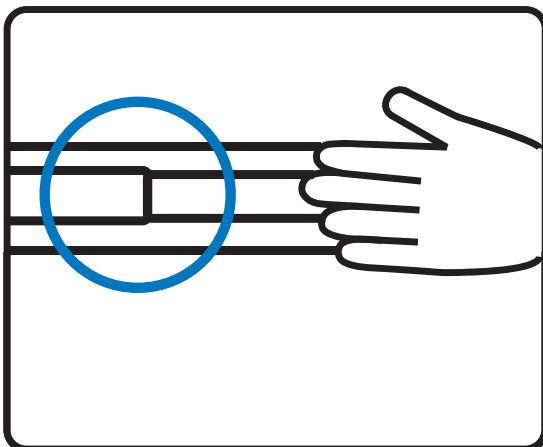

Figure 14.
- Push the LCD keyboard drawer into the rack. (shown in **Figure 14**).